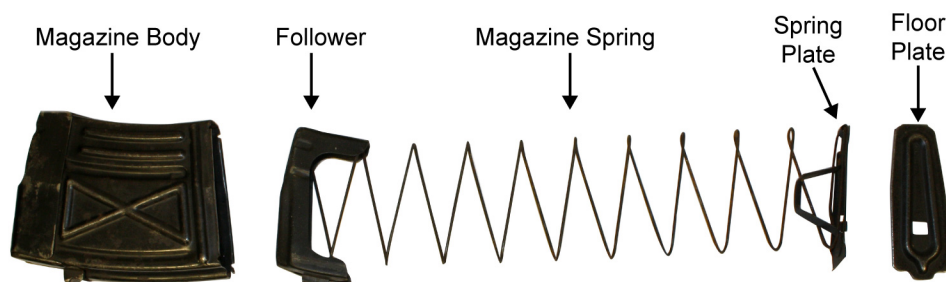

Figure 3. Magazine Components.
1. With the hump of the follower on the left side of the magazine insert the follower, magazine spring, and spring plate into the bottom of the magazine. Slide the floor plate, from front to rear, onto the magazine. Ensure the retaining tab snaps through the hole in the bottom of the floor plate. Refer to Figure 3.